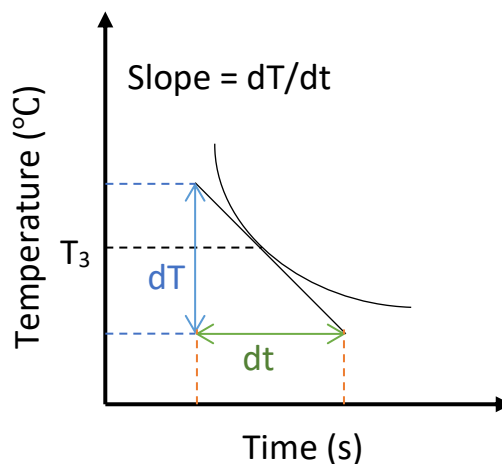

Fig. 2: Variation of temperature with time
Fig. 2 shows the variation of temperature with time, which gives the rate of fall of the temperature (slope of the cooling curve).
12. At this stage, with proper care, we remove heater and leave Disc 3 on the sample disc and start recording the thermocouple reading every 30 seconds time interval until it reaches $(T_{3f} - 10^\circ\text{C})$. This exercise should typically take 12-14 minutes. Plot a graph as shown in Fig 2. Draw a tangent at T_{3f} point to determine the cooling rate (dT/dt) at stabilized temperature T_{3f} . You will have to draw two more approximate tangents for your uncertainty analysis later.